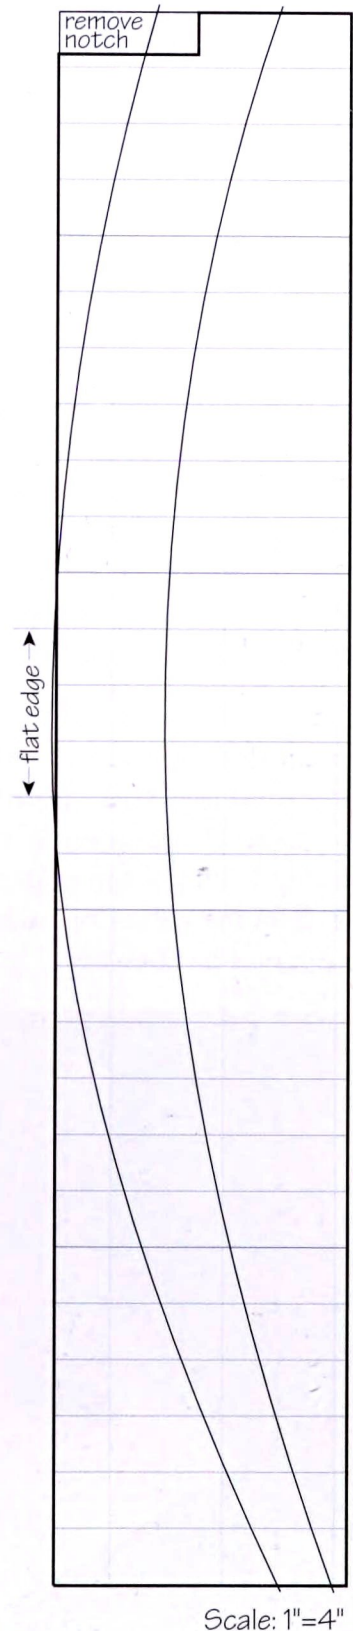

Figure 1
1. Flatten, thickness, and joint one edge of stock for the legs (A) and the stretchers (B). (See Flattening, Thicknessing, and Jointing on page 8 to review this process.) Flatten and thickness (and joint and glue up, if necessary) lacewood stock for the shelf (D).
3. Cut the legs (A) to a length of 28" using a drop stop. (Refer to Drop Stops, Jigs and Fixtures on page 12 for more information.) Cut the stretchers (B) to length as well.
4. The top end of each leg receives a $\frac{3}{4}$ " high by 2 $\frac{1}{2}$ " deep notch (see figure 1). To do this on the table saw, raise the blade to 2 $\frac{1}{2}$ " high or slightly lower, and move the rip fence to $\frac{3}{4}$ " from the far side of the blade. Use the miter gauge to push all four legs through the blade at once, with their top ends butted against the rip fence and their jointed edges down on the table. This minimizes tear-out next to the kerf. Set the rip fence to 2 $\frac{7}{16}$ " from the far side of the blade. Use a scrap with a square end to push each leg through the blade, with the leg held vertically, and its jointed edge against the fence. The scrap might be a piece of $\frac{3}{4}$ " plywood about 5" wide and long enough to push the leg all the way past the blade without getting your pushing hand too close to the blade. The pushing scrap helps control the leg as it goes past the blade and also pushes the cutoff away from the blade so that it doesn't come flying back at you.
1. Following figure 1 (page 93), make a pattern for the legs from matte board or thin plywood. (See Fair Curves and Patterns on page 12 for helpful tips.) Notice that the area on the jointed edge of the legs from 14" to 17" from the floor must remain flat.